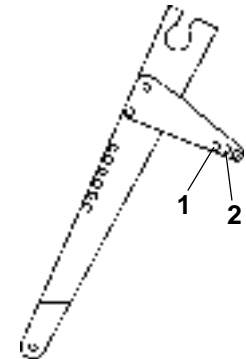

Figure 11-89. CS4, CS6. Spring Hole Position.
2. Connect the governor spring to the arm of the governor lever and into the slot in the throttle lever. See Figures 11-89, 11-90, and 11-91 according to model number for proper assembly if necessary.